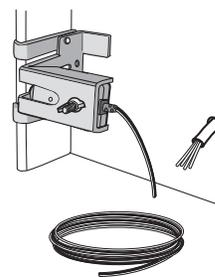

Figure 8
2. Separate the safety sensor wires and strip 7/16 inch (11 mm) of insulation from each end. Choose two of the pre-installed wires and strip 7/16 inch (11 mm) of insulation from each end. Make sure that you choose the same color pre-installed wires for each sensor (Figure 8).